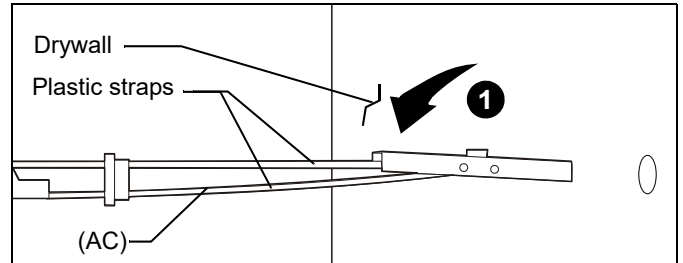

Figure 21
1. Hold metal channel on anchor (AC) flat alongside plastic straps and slide channel through hole. (See Figure 21)